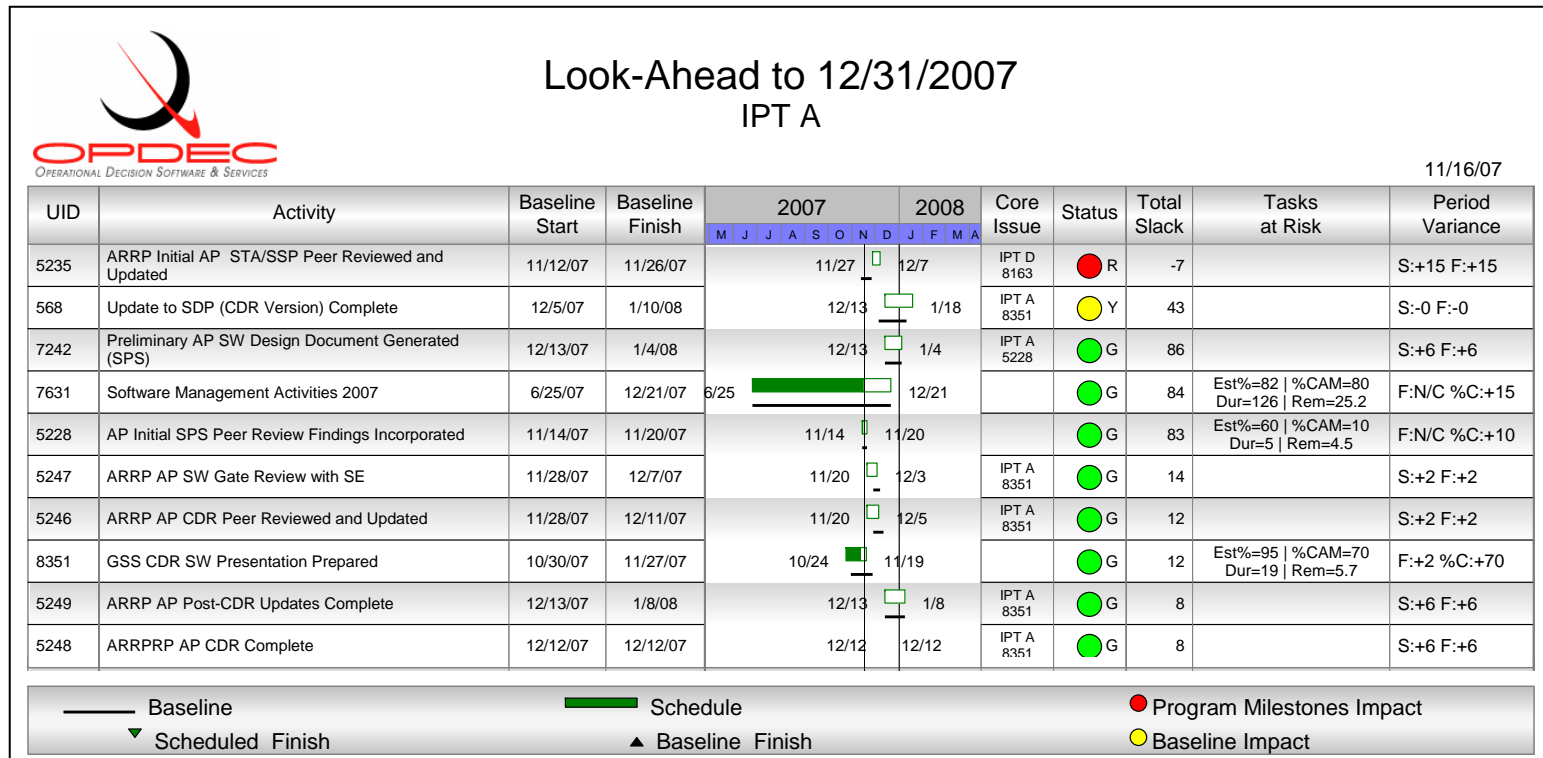

Figure 15
The Look Ahead report gives the user insight into the activities scheduled to start or complete up to the 'Look to Date' specified (see Look to Date under the Generating Reports section). Using the default Milestone Professional template 'Look Ahead.mtp', the following report example was created (Figure 15).
- **Tasks at Risk:** This column indicates if the activity is considered at risk. In the example above (Figure 15) UDI 7631 is at risk because its estimated % complete is 82 while the specified CAM % complete is only 80. Now this may not seem like a large enough variance to warrant the task at risk, but for this report our variance threshold was set to zero (see **Tasks at Risk Threshold** from the settings section). If we were to allow a variance threshold of ± 5 , then this activity would not have shown at risk. The Task at Risk column also shows what the duration of the task is compared to the duration remaining.